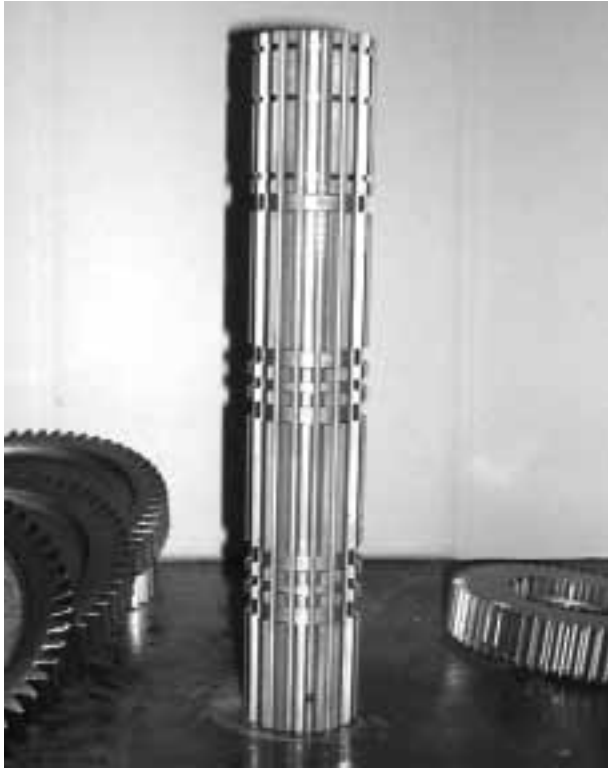

Figure 53 – Mainshaft
64. To assemble the mainshaft (refer to Figure 52 and Figure 53), proceed as follows: